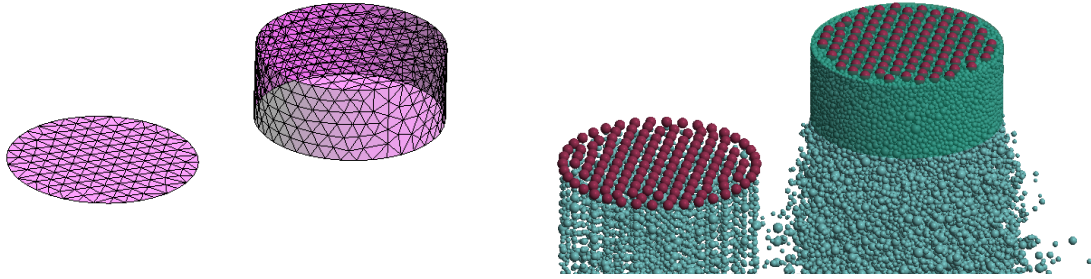

Figure 22. Injection of particles through a simple and a densified inlet. Preprocess (left) and postprocess (right).
- **Densified flow:** when active, the injected particles will accumulate before entering a free-fall phase. When they cannot be accumulated anymore, the lower particles are released at the same flow rate that has been specified for the inlet (Figure 22).